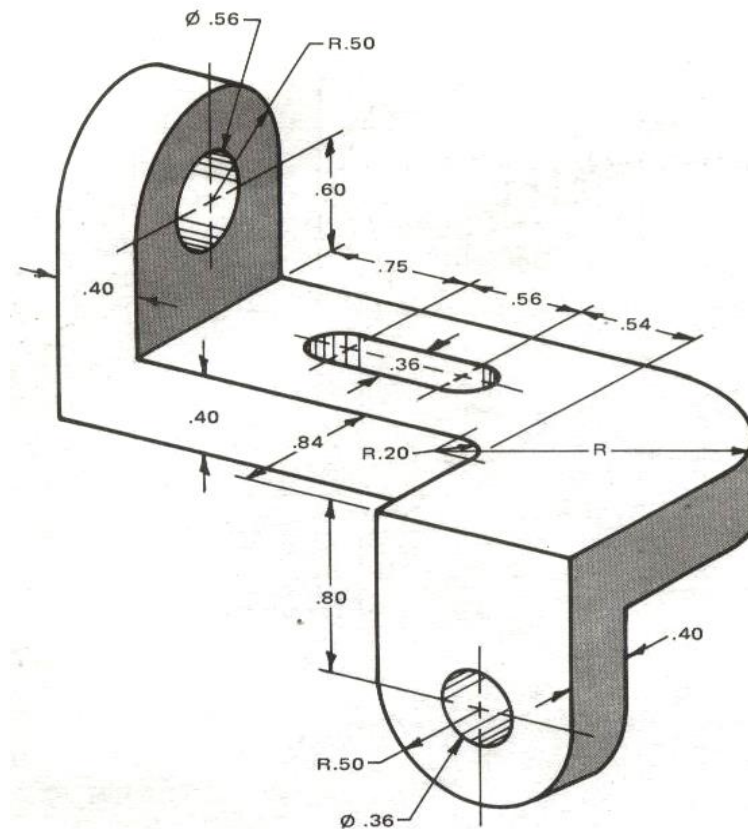

Figure QU4 Bracket
- (d) Produce respectively, of the Support Block feature shown on Figure QU4: